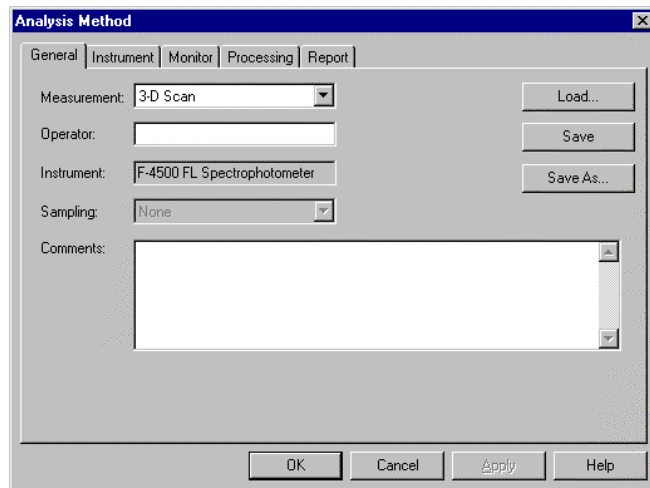

Fig. 5-2 Analysis Method
- (1) From the Edit menu, select the Method command or click the  button. The dialog box shown in Fig. 5-2 will appear.